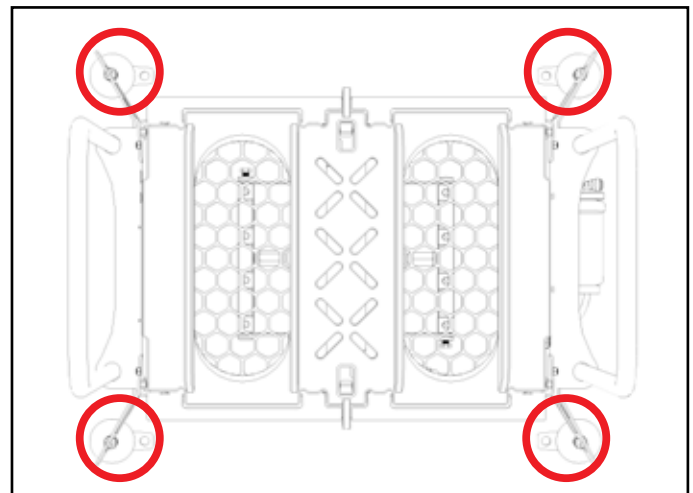

Fig. 6.2: Mounting bracket locations
4. Using the 4 mounting brackets located at each corner, securely fasten the unit to the floor with appropriate hardware for the given material (i.e. concrete anchors, bolts, etc.) [Figure 6.2].